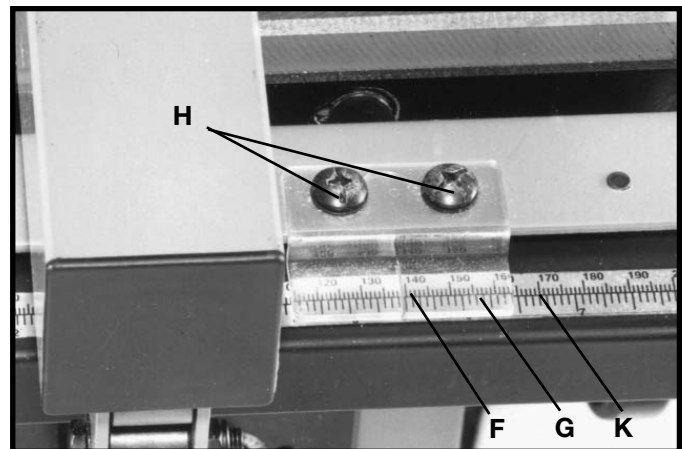

Fig. 43
3. The distance the fence is positioned away from the blade is indicated by the witness line (F) Fig. 43, located on the cursor (G). If it is necessary to adjust the cursor (G), make a test cut with the fence locked in position. Measure the width of the finished cut and adjust the cursor (G) by loosening the two screws (H), adjusting the cursor (G) until the witness line (F) is aligned with the same marking on the scale (K) as the finished cut. Then tighten the two screws (H).